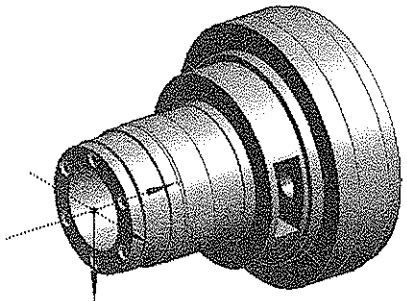

Figure 7-83 Preview of the plane for creating the section of the model
- 3. In the Tree Outline, select **YZPlane**; a preview of the plane is displayed in the Graphics screen, as shown in Figure 7-83.